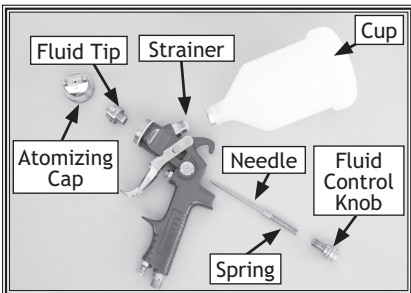

Figure 13. Gun disassembled for cleaning.
4. Disassemble the gun by unscrewing the fluid control knob, removing the spring and needle (Figure 13).
5. Unscrew the atomizing cap with your fingers and the fluid tip with the service wrench. The fully disassembled gun should look like Figure 13.